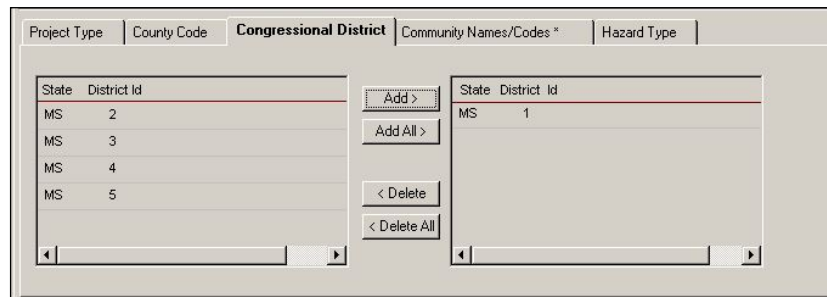

Figure 6-35: Congressional District Added
- b. Click the ADD or ADD ALL (if you highlighted more than one row) button. The State(s) and District ID(s) you selected are now displayed on the right side (Figure 6-35).